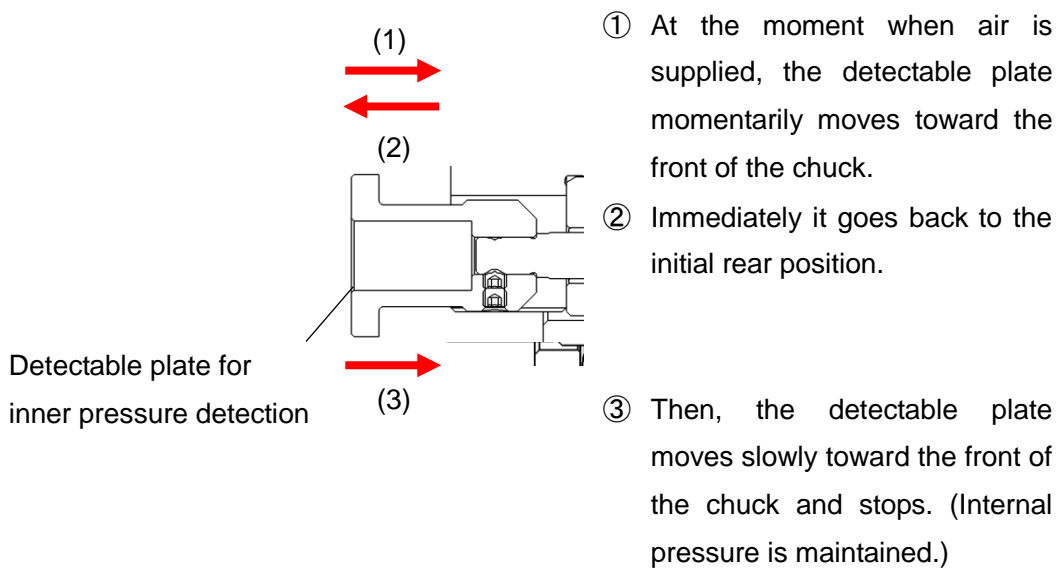

Fig.20
- The spring determines the working pressure of the detectable plate. Therefore, particularly if air is supplied at high pressure, the detectable plate may perform momentary reciprocating motion at the moment when air is supplied as shown in Fig.20. To prevent the proximity switch from detecting the momentary reciprocating motion of the detectable plate shown in Fig.20, please give consideration to keep the proximity switch from detecting for a few seconds just after air is supplied by using a timer, etc.